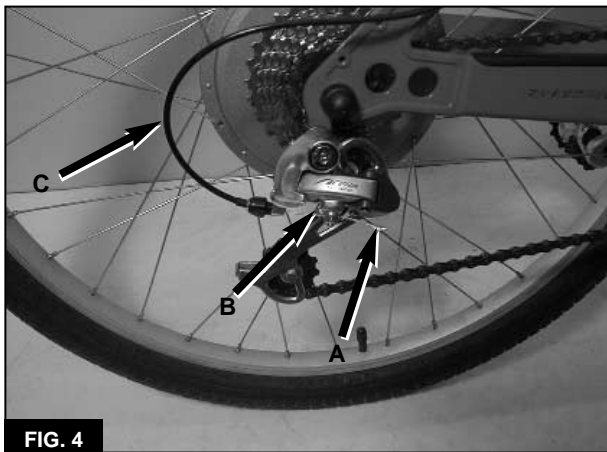

FIG. 4
2. Loosen and unthread the caliper pivot bolt. (A, **Figure 4**)
- c. If necessary, balance the caliper arms by turning the spring-tension adjuster (B, **Figure 4**) on either arm.
4. At the derailleur, remove the end cap (**A**, **Figure 4**) from the end of the inner wire.
6. Slide the lower cable housing (**C**, **Figure 4**) off the inner wire. Do not lose the ferrule from either end of the lower cable housing.